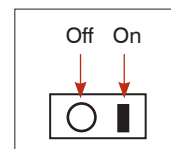

Figure B-1:
3. Locate the power switch on the left side of the analyzer and switch it to **on** (Figure B-1). The VetStat analyzer start-up screen displays. Tap **OK**.